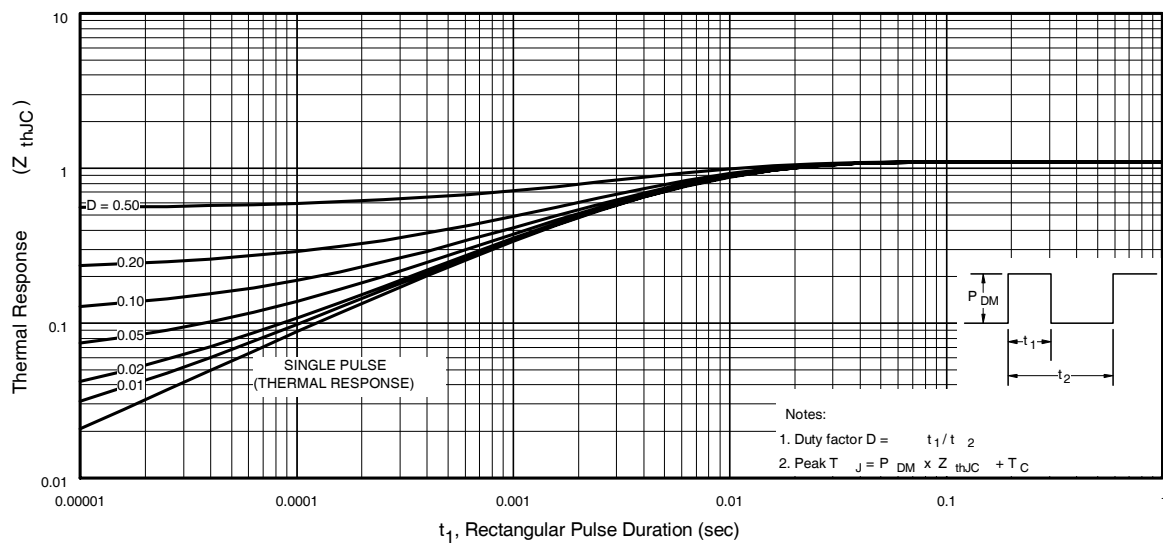

Fig 11. Maximum Effective Transient Thermal Impedance, Junction-to-Case
- ① Repetitive rating; pulse width limited by max. junction temperature. (See fig. 11)
- ② Starting $T_J = 25^\circ\text{C}$, $L = 11\text{mH}$